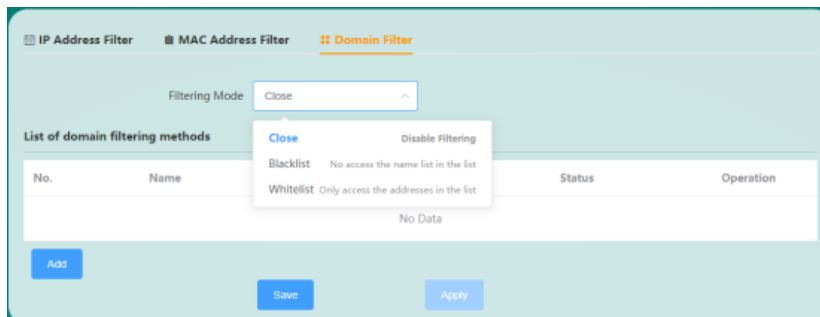

Figure 42 Domain name filtering page
**Domain name filtering:** restrict access to the specified domain name, support the blacklist and whitelist settings of the domain name address, as shown in Figure 42.